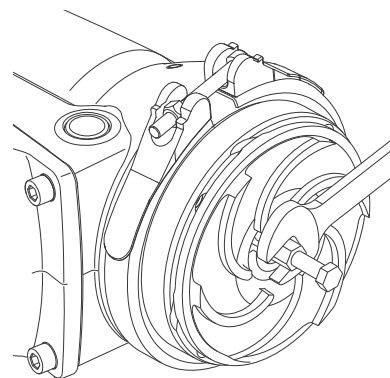

Fig. 11 Fitting the puller on the impeller
2. Insert the punch (F) in the impeller (49) to prevent it from moving during dismantling.
3. Remove the adjusting nut (68).
4. Fit the puller (A) on the shaft. See fig. 11.